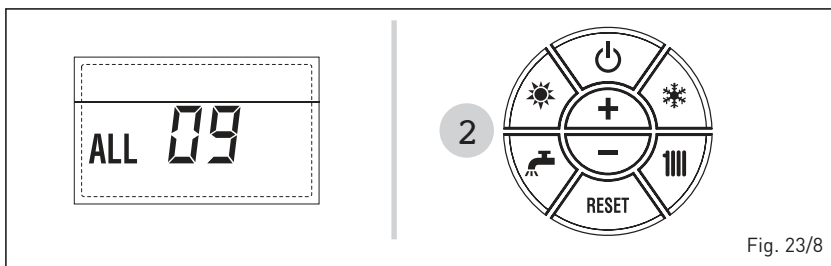

Fig. 23/8
- **ANOMALÍA Sonda AUXILIAR “AL 10” (fig. 23/9)**